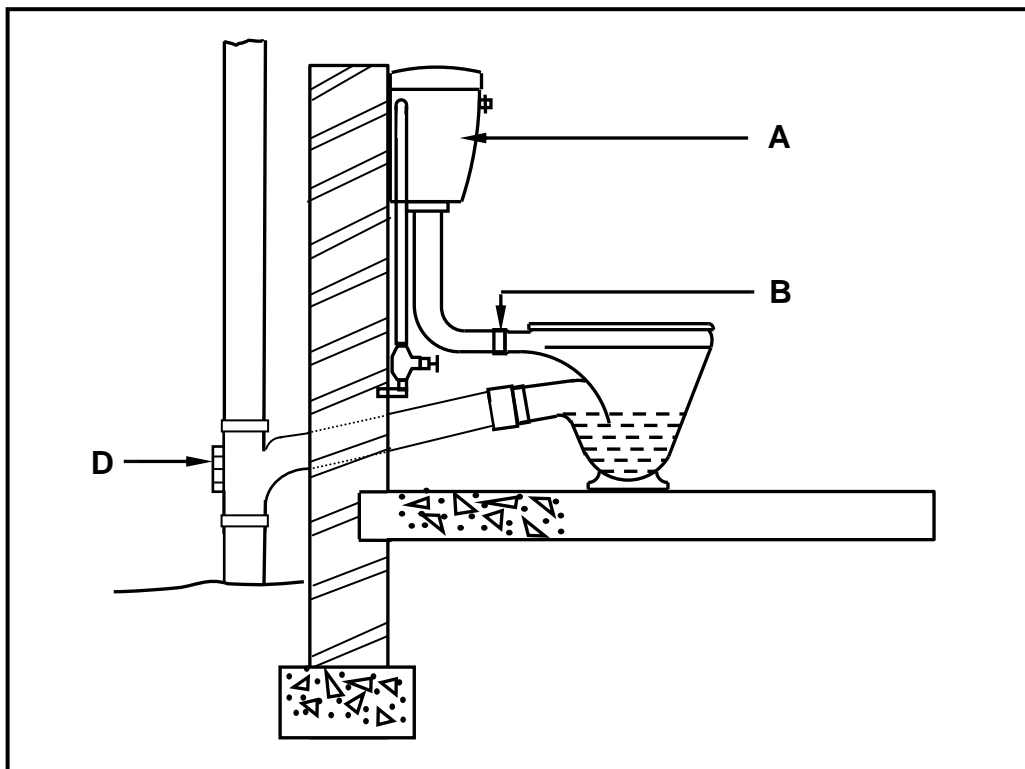

FIGURE 6.3
6.3 FIGURE 6.3 below is a drawing of the sectional view through a part of a building showing the installation of a water closet. Study the drawing and answer the questions that follow.
6.3.5 A ball valve is found inside part **A** in FIGURE 6.3 and regulates the water level. In your ANSWER BOOK, draw a neat line diagram of a ball valve as seen from the direction of **A** in FIGURE 6.3. Show the following in your drawing:
- Label any TWO parts of the drawing. (5)